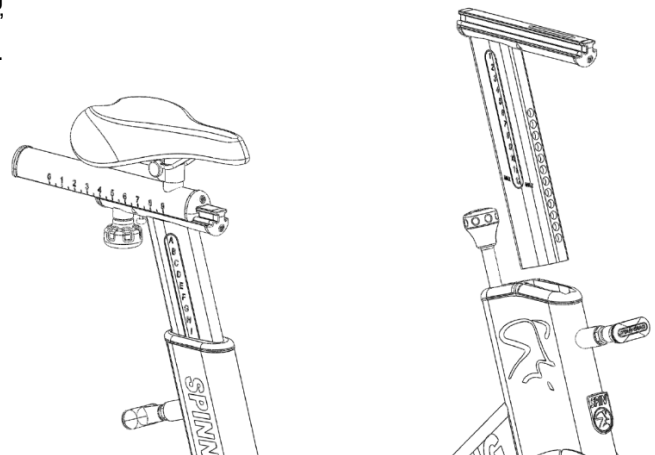

Fig. 18
18. Locate and insert the handle bar post into the corresponding location on the Spinner frame (Fig. 18) by pulling on the "T" style pull pin located above the front SPIN® badge.